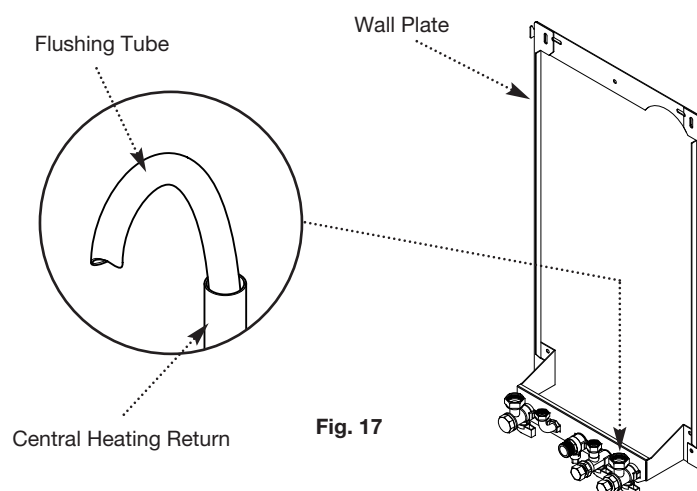

Fig. 17
1. Connect a tube to the central heating flow or return pipe (Fig. 17).